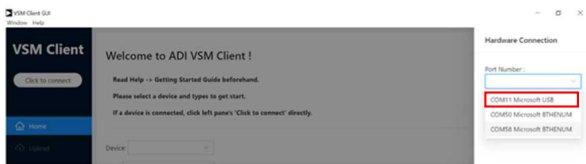

Figure 22. Cable Connection COM Port
- ▶ If using a cable connection, only one port is available (see Figure 22). In the example shown in Figure 22, the port is **COM11 Microsoft USB**.